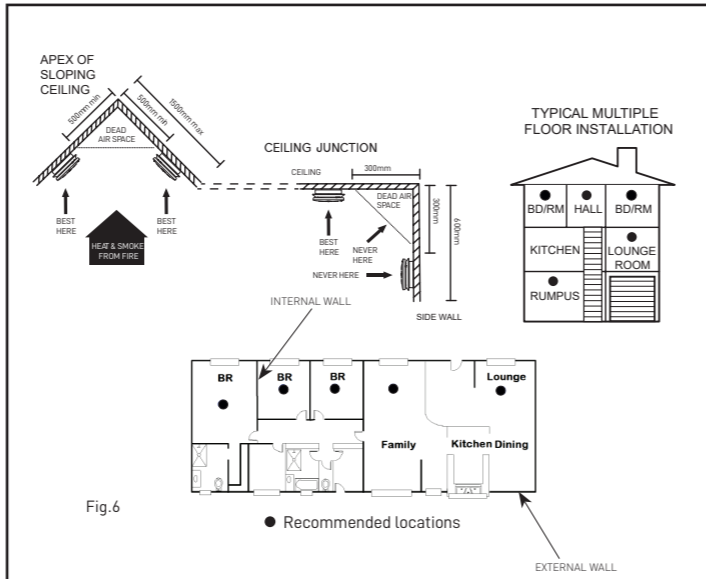

Fig.6
- Understand your requirements and decide how and where you need the smoke alarm installed (See location section Fig. 6 for guidance)
- Mount base in the required position (See recommended location. Fig. 6).